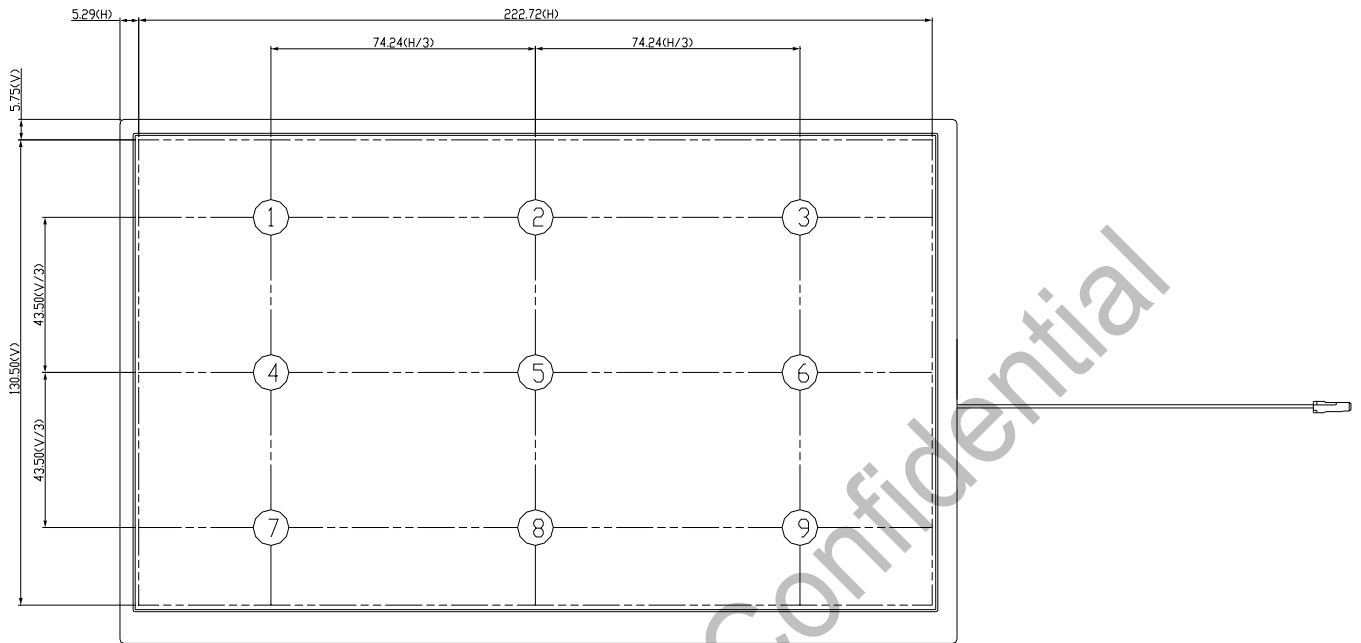

Fig.7-1 Measuring point
- 3) Definition of luminance : Measure white luminance on the point 5 as figure.7-1
Definition of Luminance Uniformity: Measure white luminance on the point1~9 as figure.7-1